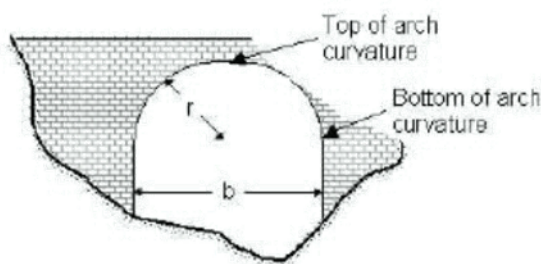

Figure 6.27 Geometrical description of an arch
**Level of bottom of arch curvature.** Level of arch spring line, shown on Figure 6.27 above.
**Level of top of arch curvature.** Level of upper most point in the arch, shown on Figure 6.27 above.
**Radius of arch curvature.** Radius of the arch ( $r$ , in Figure 6.27 above).